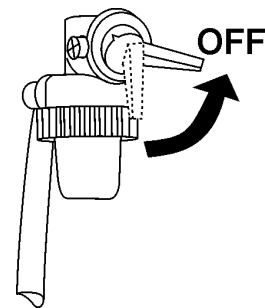

Figure 27. Engine Fuel Valve Lever (OFF)
6. Place engine fuel valve lever (Figure 27) in the **OFF** position.